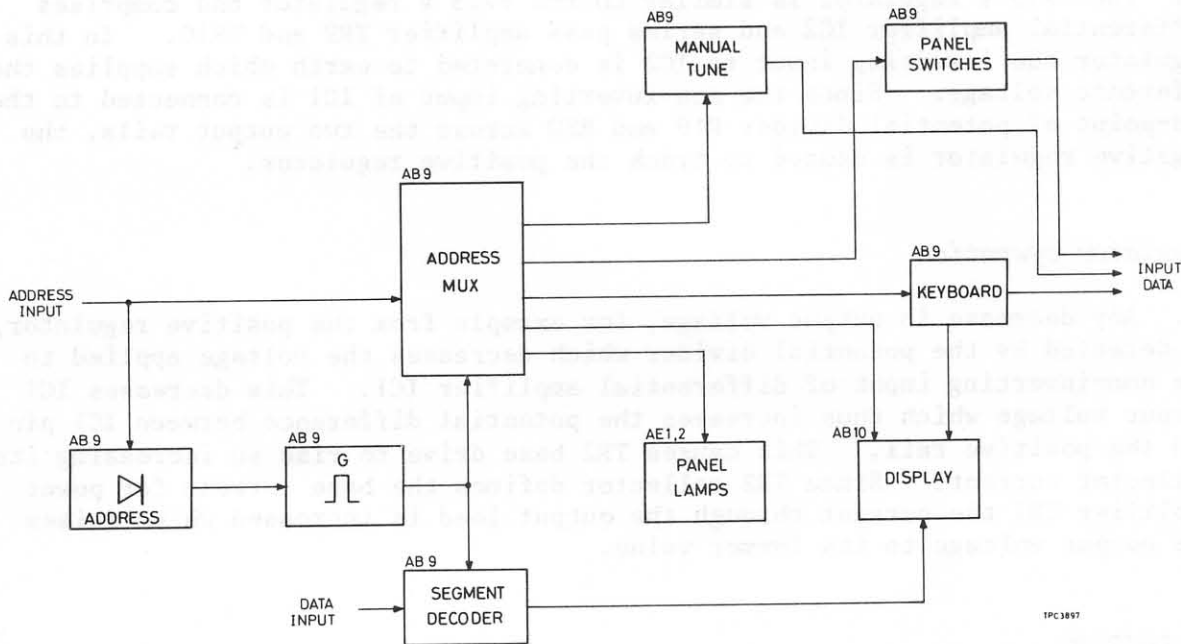

Fig. 22 Display unit
77. The display unit is shown in block diagram form in Fig. 22. The unit has at its heart a multiplexer on board AB9 by means of which the ADDRESS INPUT selects data either to be passed to the microprocessor to show e.g. a switch has been operated, or to cause a display or panel l.e.d. to illuminate. The associated manual tuning operation is shown in block diagram Fig. 23. The manual TUNING control generates signals to signify direction and rate of tuning.